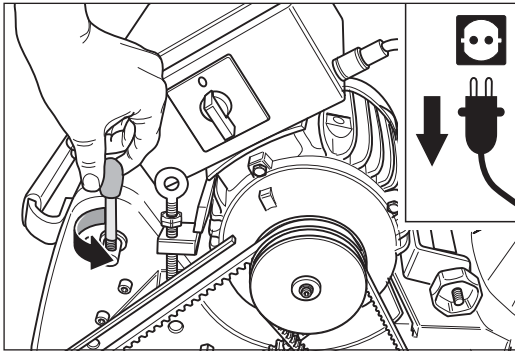

Fig. 35 Unscrew the operating lever of the drive unit.
- 6 Remove the operating lever by unscrewing (Fig. 35).